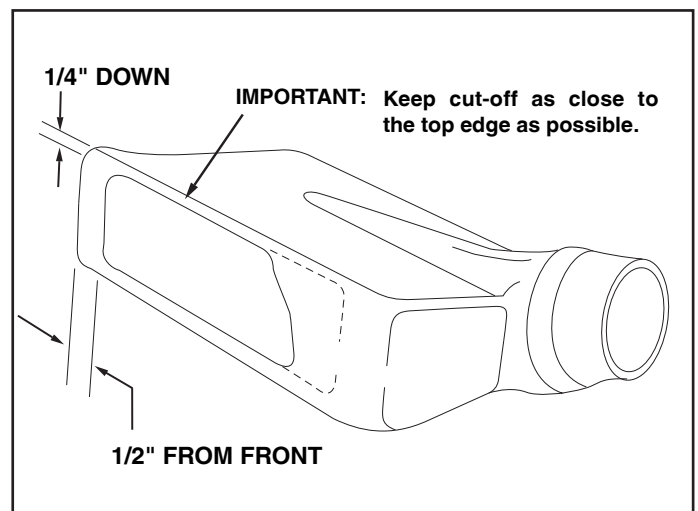

FIGURE 11
3. Tape the template to the face of the adapter, about 1/2" from front and 1/4" down from top for deeper decks. For shallow decks, position template low enough that adapter will not extend below bottom of deck. Mark outline of template on face of adapter using white crayon, nail or scribe. Drill a starting hole inside the outline, then use a saber saw or key hole saw to cut out the opening. See figure 11.